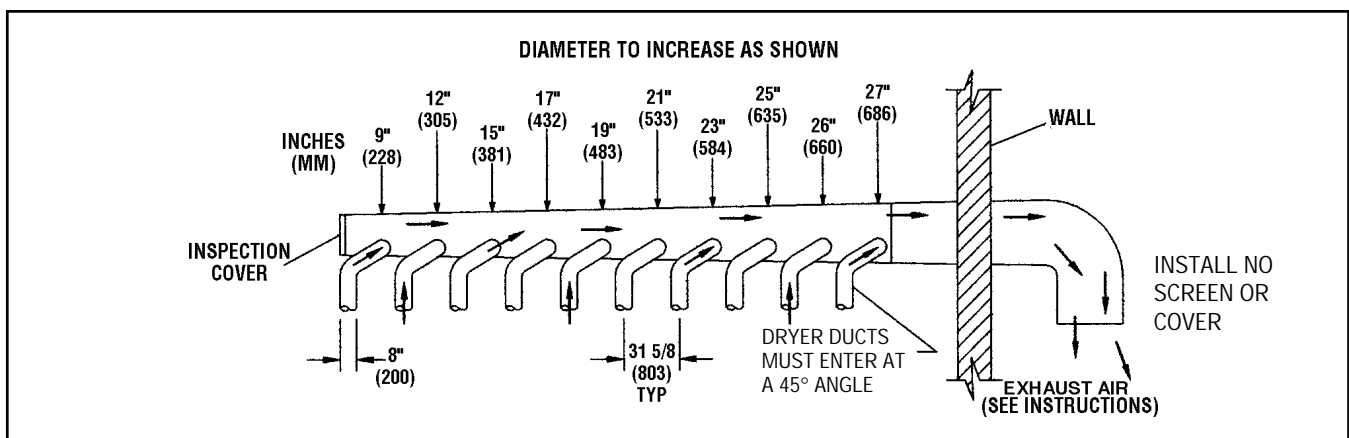

Figure 2 – Dryer Exhausting Using A Main Discharge Duct.
| DRYER EXHAUST SYSTEM (Figure 2) | 5, 6 |
7. **EXHAUST INSTALLATION.** (Refer to Figure 2 at the end of section 7.) Exhausting of the dryer(s) should be planned and constructed so that no air restrictions occur. Any restriction due to pipe size or type of installation can cause slow drying time, excessive heat, and lint in the room.
Installation of several dryers where a main discharge duct is necessary, will need the following considerations for installation (see Fig. 2). Individual 8" ducts from the dryers into the main discharge duct should be at a 45 degree angle in the direction of discharge air flow.
NOTE: Never install the individual 8" ducts at a right angle into the main discharge duct. The individual ducts from the dryers can enter at the sides or bottom of the main discharge duct. Figure 2 indicates the various round main duct diameter to use with the individual dryer ducts. The main duct can be rectangular or round, provided adequate air flow is maintained. For each individual dryer, the total exhausting (main discharge duct plus duct outlet from the dryer) should not exceed the equivalent of 20 feet (6m) and two elbows. The diameter of the main discharge duct at the last dryer must be maintained to exhaust end.